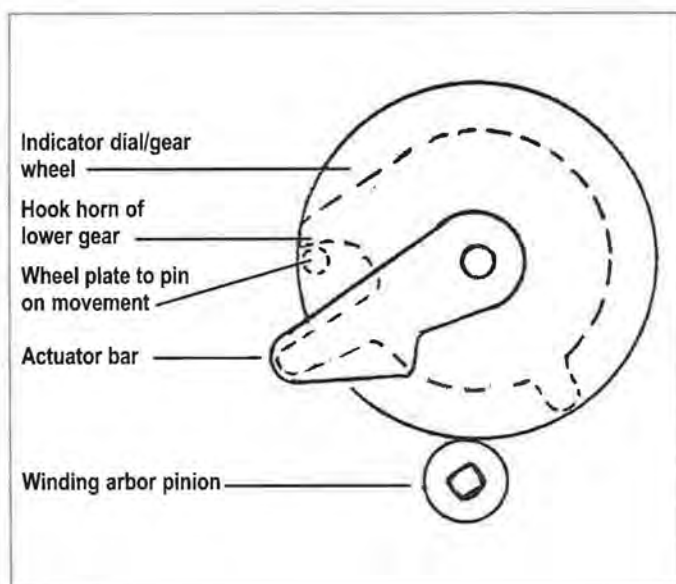

Figure 16A.
5. Install the indicator dial/gear wheel assembly halfway down the center post, hooking the horn of the lower plate of the gear wheel on the solid pin on the bridge of the movement (Figure 16A) in such a way that the gear wheel teeth just clear the pinion of the winding arbor (Figure 16B).